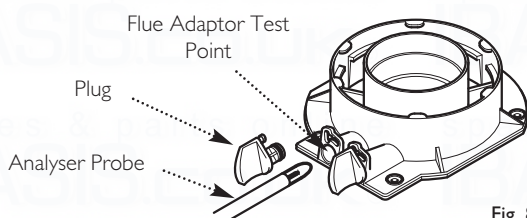

Fig. 81
7. Remove the plug from the flue sampling test point. Insert the analyser probe and allow sufficient time for the reading to settle (Fig. 81).